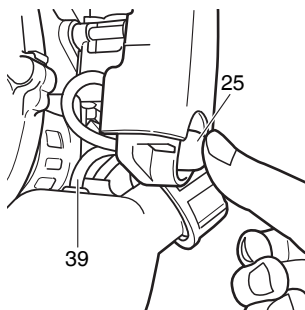

Fig. 23
* Push priming bulb (25) several times so that fuel flows through return pipe (39). (Fig. 23)
- When you hear the engine want to start, return choke lever to RUN position (open) (B). Then pull recoil starter briskly again.